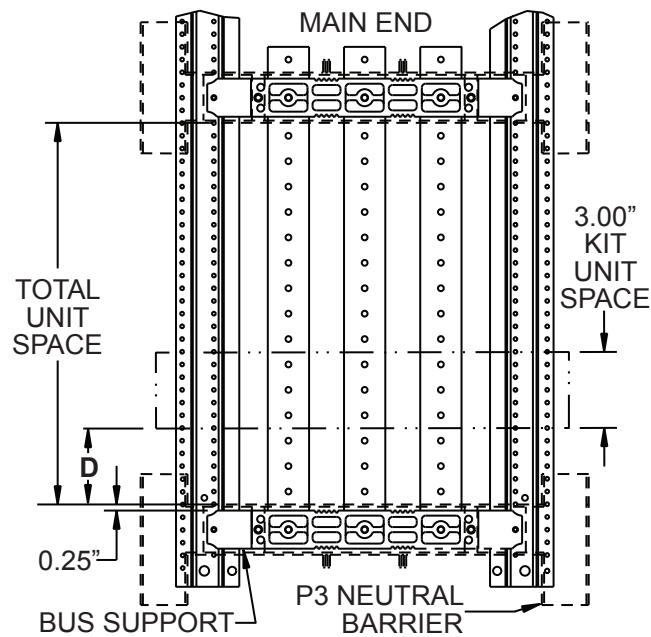

Figure 1
3. Refer to Figure 1
4. This kit requires 3" of unit space. Determine the location where the kit is to be installed. The kit positioning dimension **D** in Figure 1 must be a multiple of 3" (e.g.: 0", 3", 6", 9", etc.). These measurements can be taken directly from a P3 neutral barrier. For measurements taken from a P2 or P3 bus support, add 0.25" to **D** (e.g.: 0.25", 3.25", 6.25", 9.25", etc.).